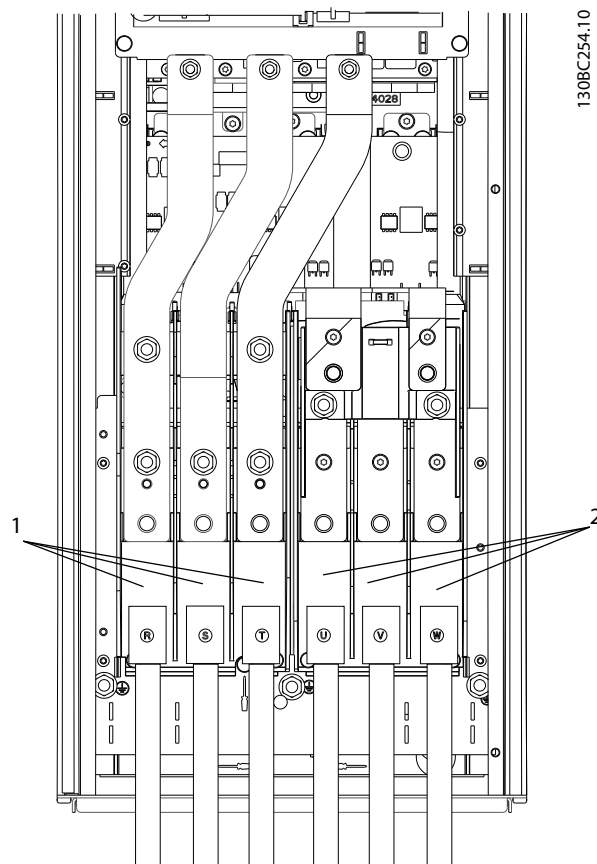

Figure 2.23 Connecting to AC Line Power
- Connect 3-phase AC input power wiring to terminals L1, L2, and L3 (see Figure 2.23)